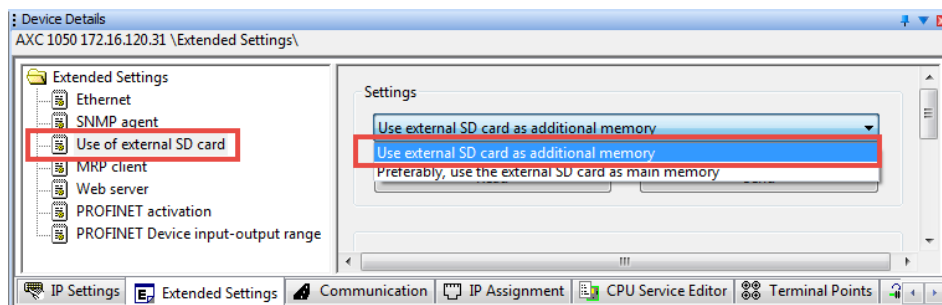

Figure 6-35 Setting the SD card as the additional memory
Figure 6-35 shows the setting in PC Worx for using the SD card as the additional memory.
- Click on the "Send" button (hidden by the drop-down list in Figure 6-35) to send the setting to the controller.